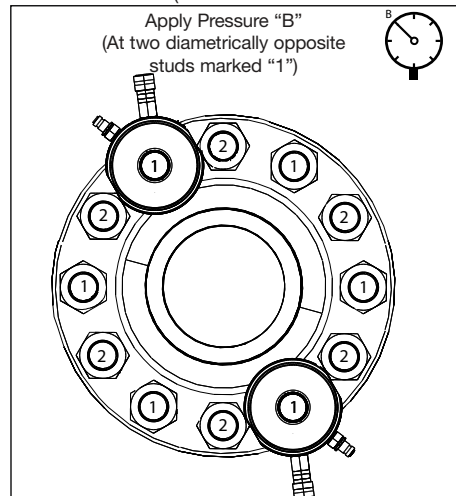

FIGURE 14, RECHECKING FIRST PASS TENSION (50% TENSIONER COVERAGE)
- Assemble tensioners on any two “first pass” bolts (labeled “1”) located diametrically opposite of each other. See Figure 14.
- Verify that the oil pressure gauge indicates zero (0) psi/bar. If any pressure is indicated, release the hydraulic pressure SLOWLY by opening the pump pressure release (return to tank) valve.